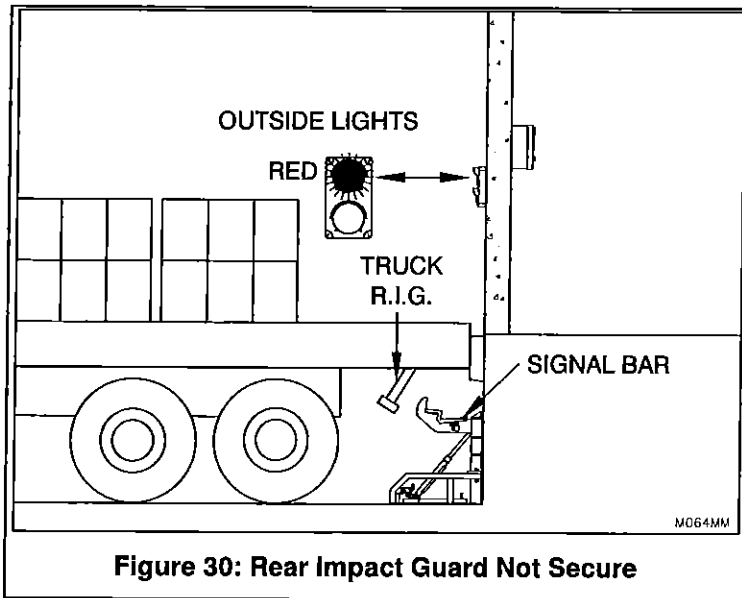
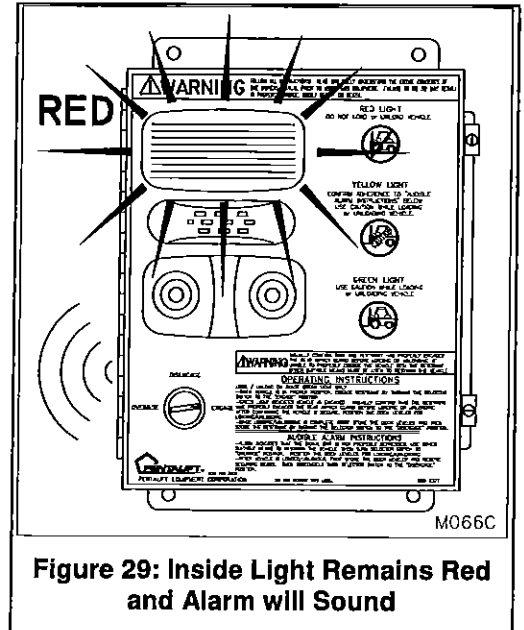

Figure 30: Rear Impact Guard Not Secure
Figure 29: Inside Light Remains Red and Alarm will Sound
2. Turn the selector switch to the **"ENGAGE"** position (see Figure 29, Page 25). The Restraint hook arms should rotate until the upper rollers are inside the vertical track, then roll straight vertically to the **FULLY** raised position. The **Inside red** light must be illuminated while the **outside red** light must be illuminated and the alarm must be sounding. (see Figure 30 and Figure 29, Page 25)